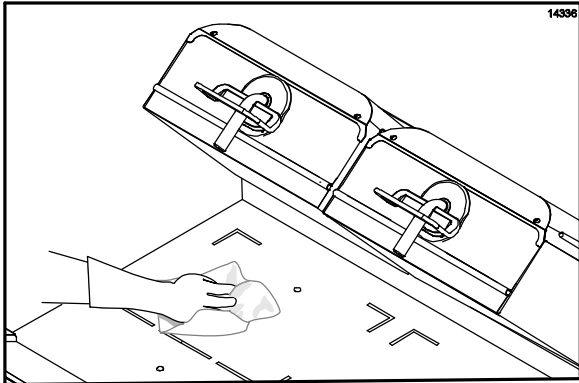

Figure 96
37. Pour a small amount of lukewarm water on a clean, sanitizer-soaked grill cloth while holding it over the bottom grill surface. Wipe the lower grill surface until all residue is removed. (See Figure 96.)